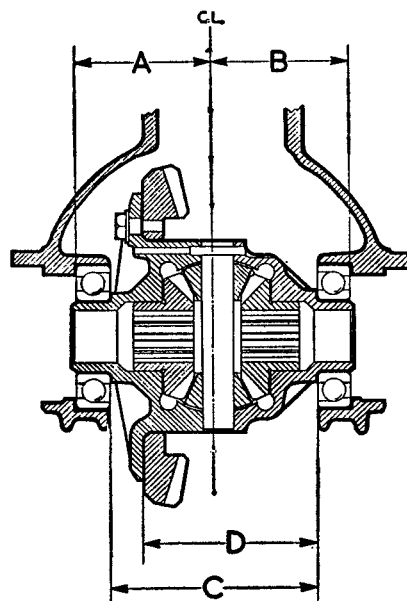

Fig. H.6
To assist in the calculation of the thickness of shims to be fitted behind each differential cage bearing variations are indicated by stamped numbers on the carrier adjacent to the bearing bores. The dimensions to be considered are shown in Fig. H.6. (A) being the distance from the centre-line to the bearing register of the carrier on the left-hand side and (B) the distance from the centre-line to the bearing register of the carrier on the right-hand side. The (C) dimension is from the bearing register on one side of the cage to the register on the other side, while the (D) dimension is from the rear face of the crown wheel to the bearing register on the opposite side. Any variation on the (A) dimension will be found stamped on